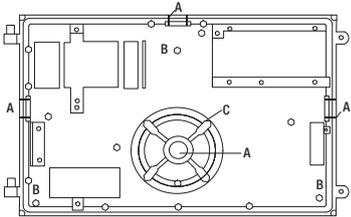

Fig 1
2. Prepare the back plate for mounting by drilling or knocking out the appropriate holes. (Fig 1)
1. Fix the MWP fixture on the wall through the side ear holes with 2xM4 screws (not provided). (Fig 1)
1. Unscrew the 4xM3 screws on the MWP front cover (driver box). (Fig 1)